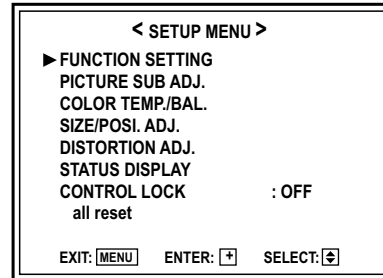
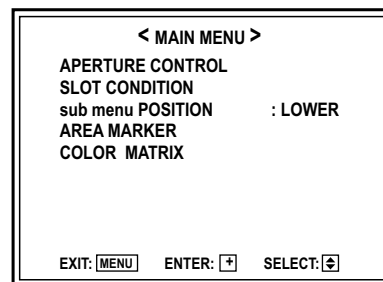

Fig. 1
Fig. 2
- (1) Disconnect the wire clamps and connectors as required.
- (2) Remove the two screws [12] and pull the CHASSIS BASE toward the front to remove it.
- (3) While disengaging the claw [D] on the CHASSIS BASE that is engaged with the rear of the SPEAKER, lift the SPEAKER to remove it (see Fig. 2).
- (4) Remove the three screws [13] and then remove the PB BRACKET.
- (5) Unplug the S. CORRECTION PWB from the connector on the MAIN PWB.
- (1) While holding down the  $\blacktriangledown$  key, press the VOL - ( $\blacktriangleleft$ ) key.
- (2) The SETUP MENU appears (Fig. 1).
- (3) Check the items in the SETUP MENU by comparing them with the data in the table on page 1-10. If any item is set differently, set it as required.
5. Check the MAIN MENU and set its items as required. Press the [MENU] key to display the MAIN MENU (Fig. 2). Check the items in the MAIN MENU by comparing them with the data in the table on page 1-11. If any item is set differently, set it as required.